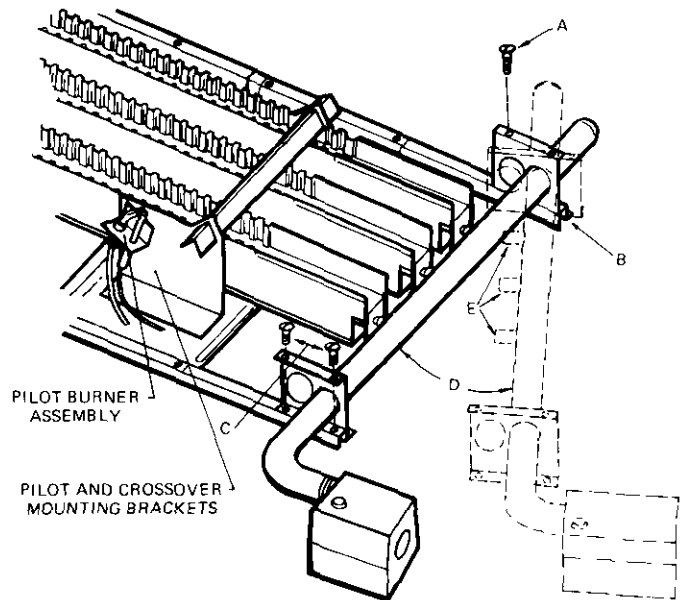

Figure 51 (4-029)
- From side of burner rack opposite gas control, remove one sheet metal screw as shown in "A" in Figure 51. Save screw for reinstallation.
- Loosen burner rack screw one turn, as shown in "B" in Figure 51.
- From gas control side of burner rack, remove two screws from manifold bracket as shown in "C" in Figure 51. Save screws for reinstallation.
- Pivot manifold away from burners as shown in "D" in Figure 51.
- Remove original gas orifices, illustrated as "E" in Figure 51.
17. Slowly return manifold to its place by sliding each burner over its orifice. Replace two screws as shown in "C", Figure 51, and one screw as shown in "A", Figure 51.